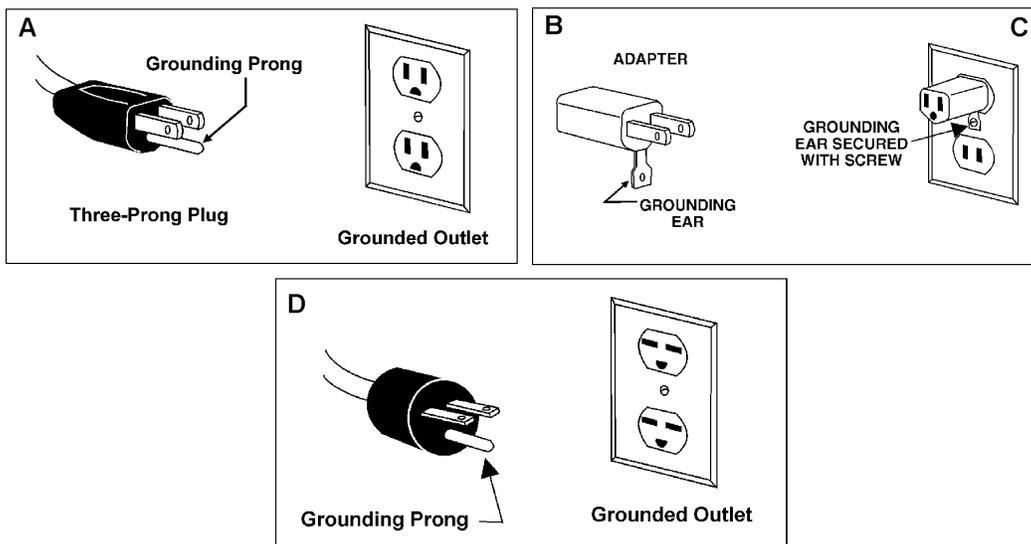

Figure 2
The 115V attachment plug (shown in A, Figure 2) must be replaced with a UL/CSA listed plug suitable for 230V operation (shown in D, Figure 2). The mortiser must comply with all local and national codes after the 230 volt plug is installed.
- Loosen *lock lever* (B) and lower the *depth stop rod* (A) until it comes to rest on top of the *column stop* (C).
- With the *operating handle* (see Figure 2) lower the *head* (E) until the *chisel* (D) is at the desired depth.
- The *depth stop rod* (A) should still be resting on top of the *column stop* (C).
- Tighten the *lock lever* (B).